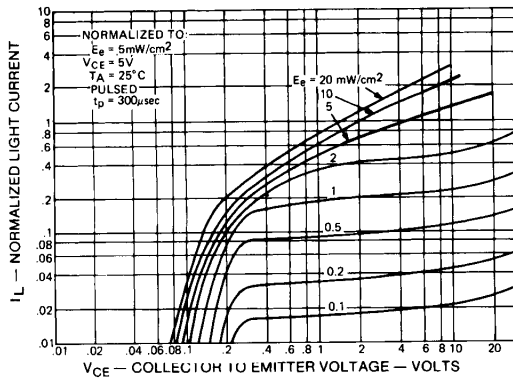
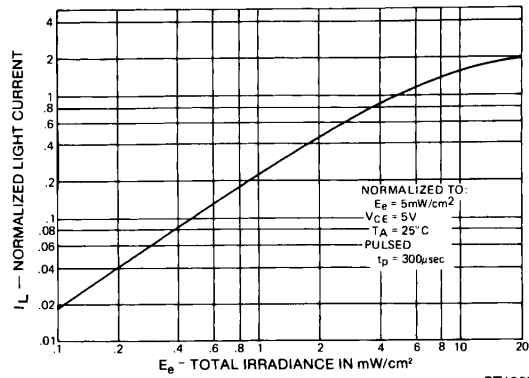

Fig. 1. Light Current vs. Collector to Emitter Voltage ST1092
Fig. 2. Light Current vs. Radiation ST1097
8. Figure 1 and figure 2 use light source of tungsten lamp at 2870°K color temperature. A GaAs source of 3.0 mW/cm2 is approximately equivalent to a tungsten source, at 2870°K, of 10 mW/cm2.